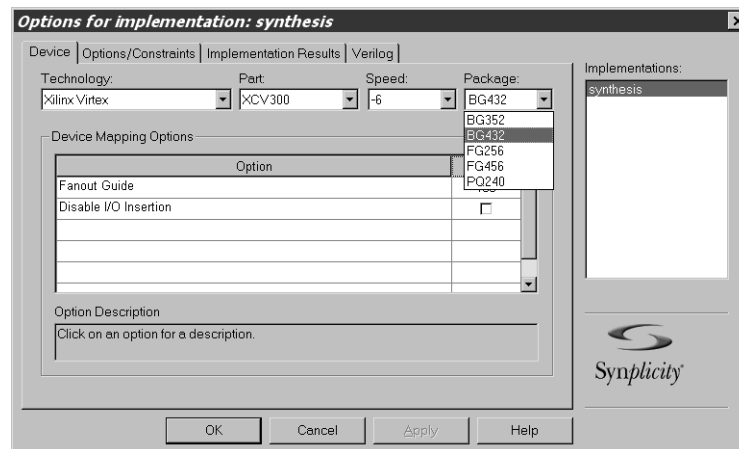

Figure 5-11: Options for Implementation: Device
12. From the main project window, click Change Target to display the Options for Implementation dialog box, as shown in Figure 5-11.